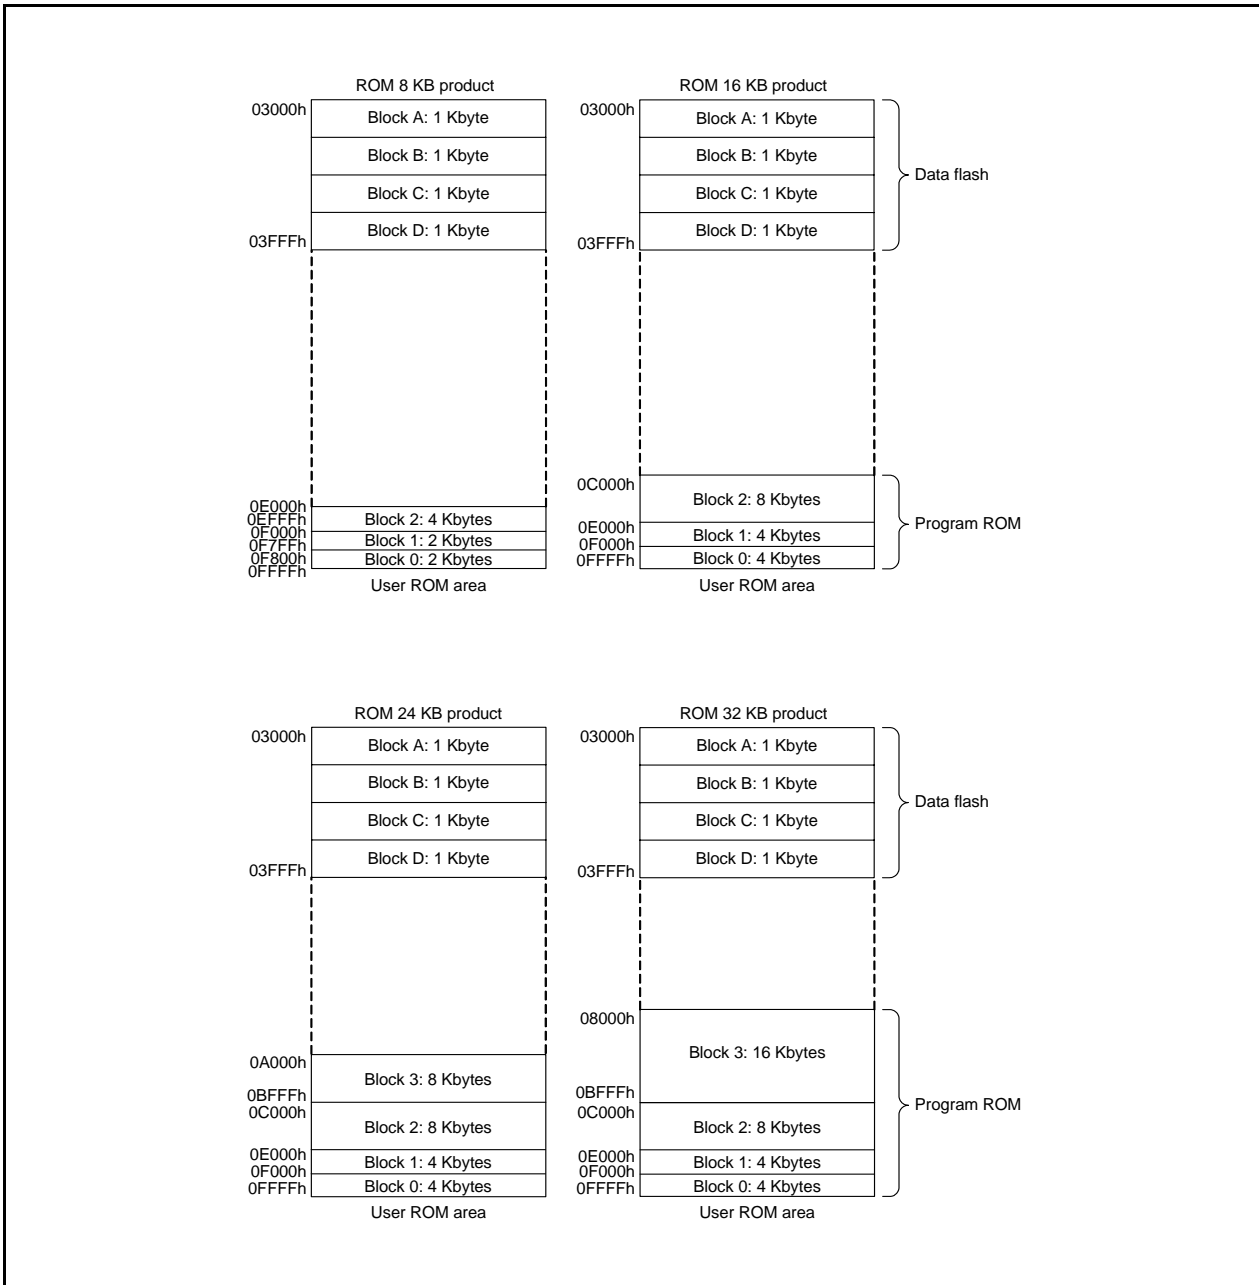

Figure 31.1 R8C/3GA Group Flash Memory Block Diagram
- The number of blocks and block division vary with the MCU. Refer to **Figure 31.1 R8C/3GA Group Flash Memory Block Diagram** for details.
Figure 31.1 shows the R8C/3GA Group Flash Memory Block Diagram.